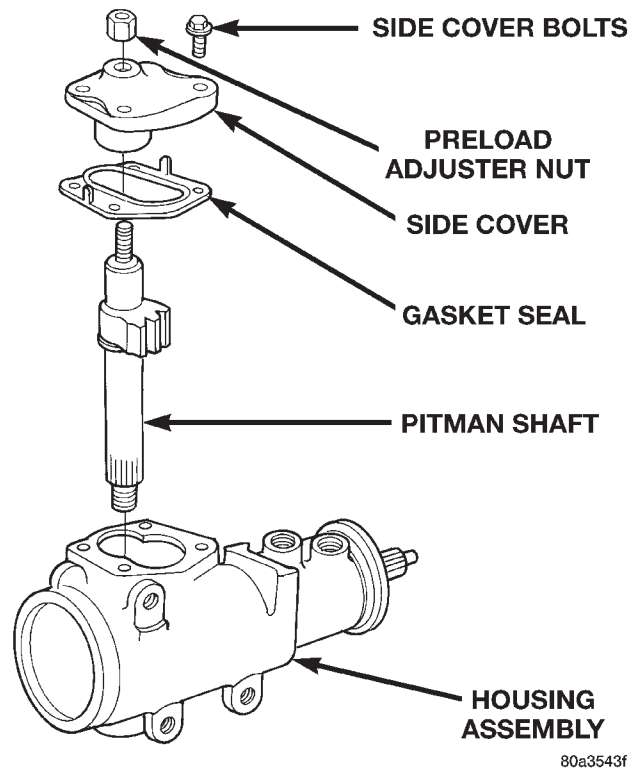

Fig. 6 Side Cover and Pitman Shaft
(1) Clean exposed end of pitman shaft and housing with a wire brush.
(2) Remove preload adjuster nut (Fig. 6).
(3) Rotate the stub shaft with a 12 point socket from stop to stop and count the number of turns.
(4) Center the stub shaft by rotating it from the stop 1/2 of the total amount of turns.
(5) Remove side cover bolts and remove side cover, gasket and pitman shaft as an assembly (Fig. 6).
- (1) Install pitman shaft bearing into housing with a bearing driver and handle.
- (2) Coat the oil seal and washer with **special grease** supplied with the new seal.
- (3) Install the oil seal with a driver and handle.
- (4) Install backup washer.
- (5) Install the retainer ring with snap ring pliers.
- (6) Coat the dust seal with **special grease** supplied with the new seal.
- (7) Install dust seal with a driver and handle.
- (8) Install pitman shaft to side cover by screwing shaft in until it fully seats to side cover.
(9) Install preload adjuster nut. **Do not tighten nut until after Over-Center Rotation Torque adjustment has been made.**
(10) Install gasket to side cover and bend tabs around edges of side cover (Fig. 6).
(11) Install pitman shaft assembly and side cover to housing.